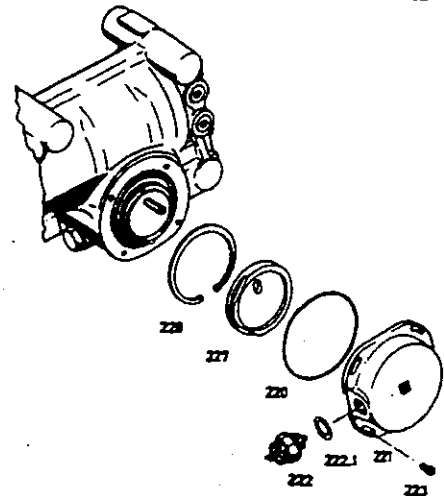

Fig.7
4.2. For versions with switch (222)
Mark position of cover (221) in relation to housing (1). Unscrew cap screws (223) and remove cover (221) with cam disc (227) and retaining ring (228) (Fig.7).